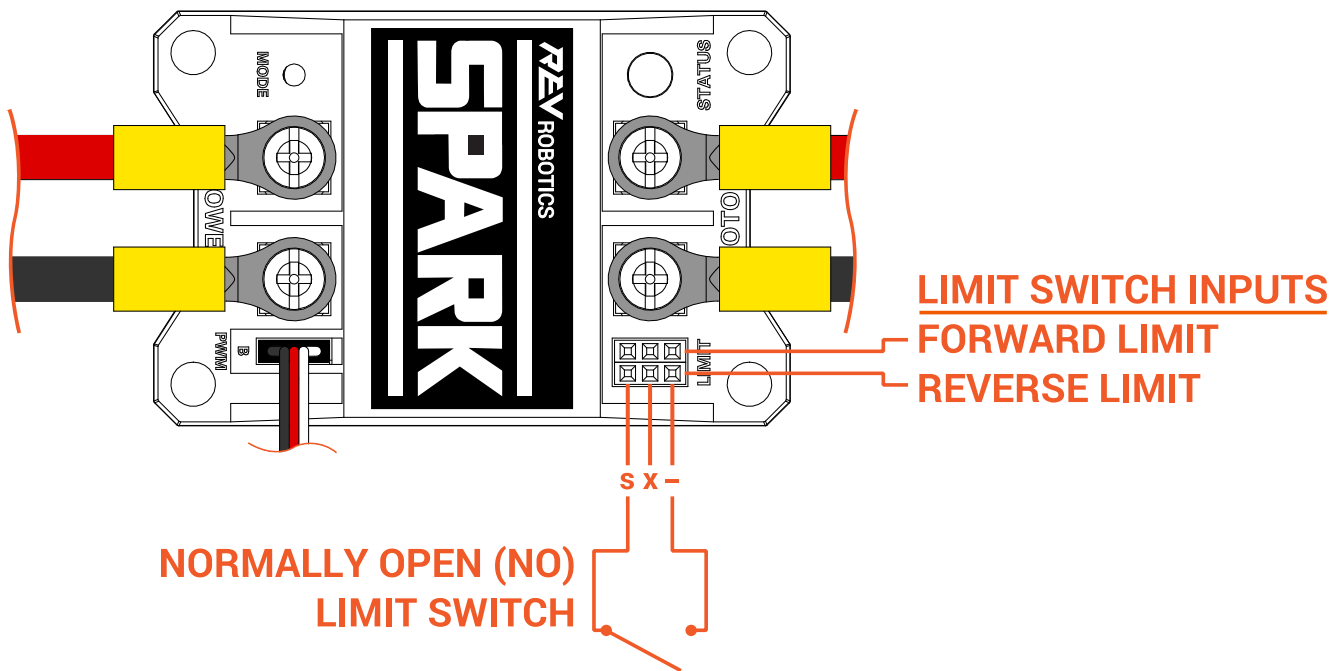

Figure 2-4 Limit Switch Inputs
The SPARK has two 3-pin connectors that can accept standard 3-wire sensor cables. The center pin is not used for the limit switch inputs. Figure 2-4 shows the locations of the Forward and Reverse ports and an example connection diagram. It is recommended to use a limit switch that is Normally Open (NO). When it is pressed, the switch closes and shorts the signal (s) and ground (-) pins.